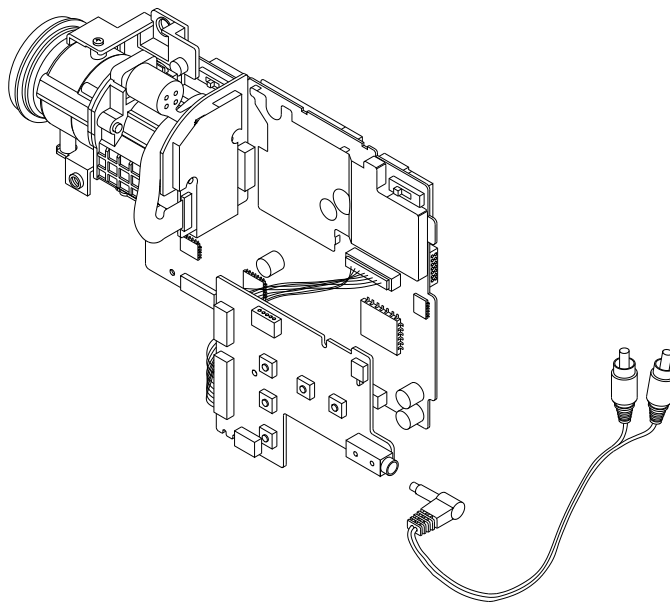

Fig. 2 Video Signal Connection
- Connect the A/V cable to the camcorder and the pattern generator as shown below.(Fig 2)